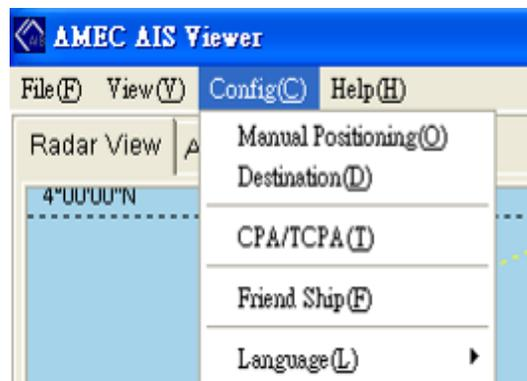

Figure 4-2-3 Quick Start
**Step 3:** Go to “Config”→ “CPA/TCPA” to set the threshold value of CPA and TCPA (Refer to figure 4-2-3). Please refer to **Section 4.3.2.3 “CPA/TCPA”** for the details.